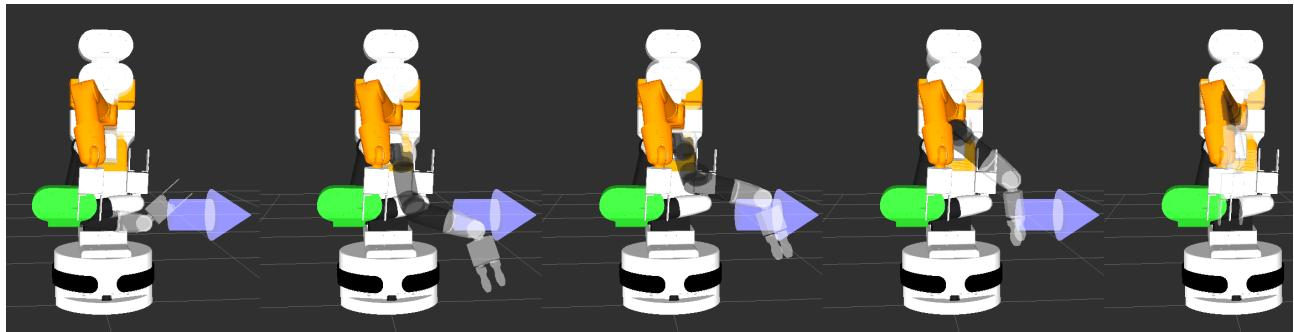

Figure 128: Example of plan found with the object in the scene.
4. (Optional) To execute such a motion, go the “Context” tab and click “*Publish current scene*”. This is necessary for the planning environment in the GUI to be moved to the one used by *MoveIt!* for planning. Go to the “Planning” tab again, and now move the arm to a position. Since this setup can be a very complex one for the planner, it might fail at the first attempt. Keep re-planning until it is successful. A succesful plan for the current example is shown in figure 128.